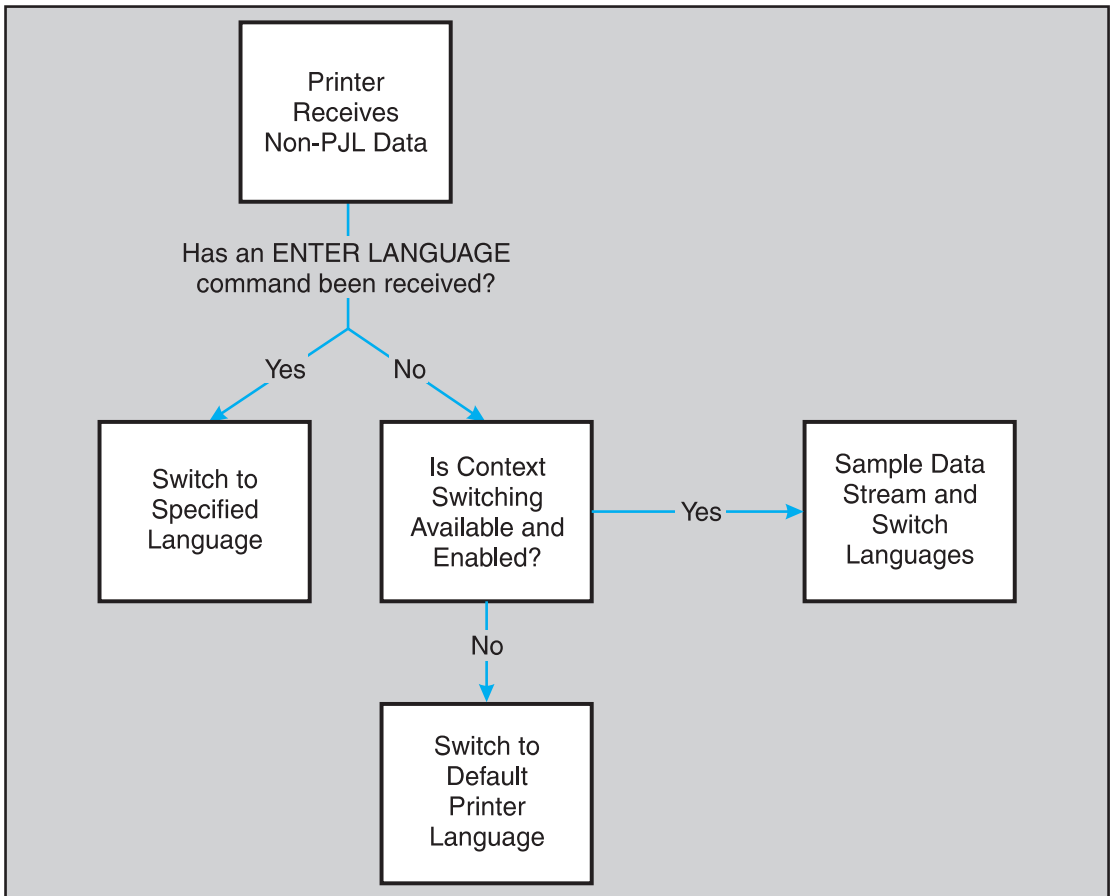

Figure 4-1. Switching Printer Languages
- **Explicit Switching.** With explicit switching, the ENTER LANGUAGE command is used to “explicitly” select the desired printer language. This is the preferred switching method because it ensures that the specified printer language is always selected (see Figure 4-1).